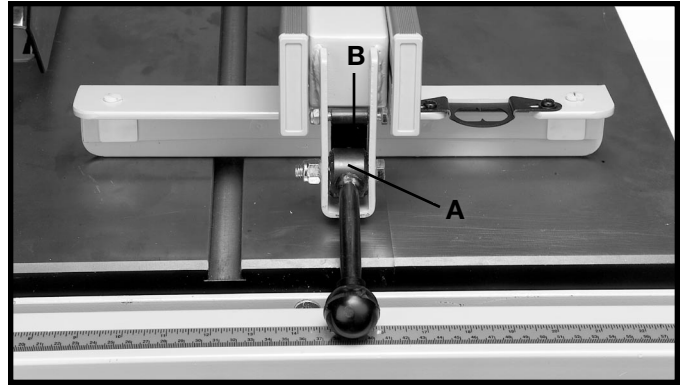

Fig. 32
2. Apply grease to cam lock (A) Fig. 32, and cam foot (B) occasionally to prevent wear.